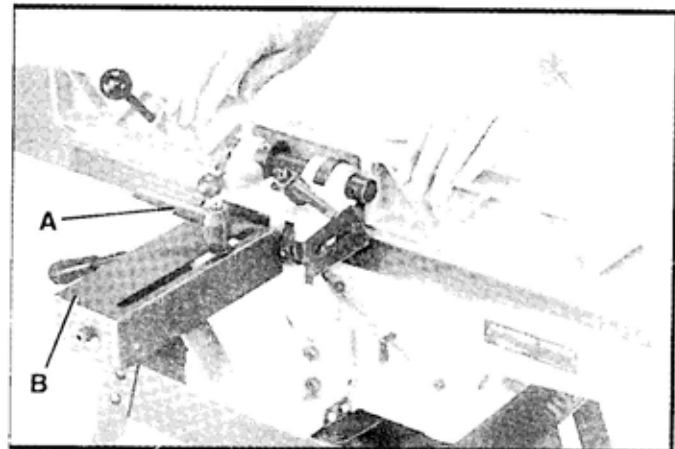

Fig. 48
1. To move the fence across the table, loosen lock handle (A) Fig. 48, slide fence to the desired position on the table and tighten lock handle (A). As the fence is moved across the table, the rear cutterhead guard (B) covers and guards the cutterhead in back of the fence. **NOTE:** Lock handle (A) is spring-loaded and can be repositioned by pulling up on the handle and repositioning it on the serrated nut located underneath the hub of the handle.